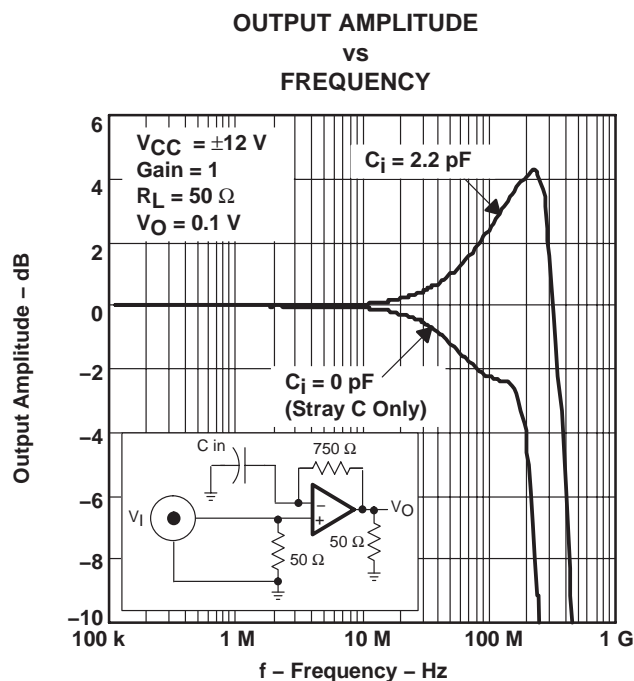

Figure 41
- **Input stray capacitance** – To minimize potential problems with amplifier oscillation, the capacitance at the inverting input of the amplifiers must be kept to a minimum. To do this, PCB trace runs to the inverting input must be as short as possible, the ground plane must be removed under any etch runs connected to the inverting input, and external components should be placed as close as possible to the inverting input. This is especially true in the noninverting configuration. An example of this can be seen in Figure 41, which shows what happens when a 2.2-pF capacitor is added to the inverting input terminal in the noninverting configuration. The bandwidth increases dramatically at the expense of peaking. This is because some of the error current is flowing through the stray capacitor instead of the inverting node of the amplifier. While the device is in the inverting mode, stray capacitance at the inverting input has a minimal effect. This is because the inverting node is at a virtual ground and the voltage does not fluctuate nearly as much as in the noninverting configuration. This can be seen in Figure 42, where a 22-pF capacitor adds only 0.9 dB of peaking. In general, as the gain of the system increases, the output peaking due to this capacitor decreases. While this can initially appear to be a faster and better system, overshoot and ringing are more likely to occur under fast transient conditions. So, proper analysis of adding a capacitor to the inverting input node should always be performed for stable operation.